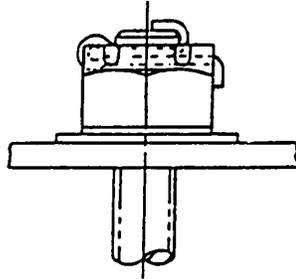

FIGURE 4-4. GENERAL COTTER PIN INSTALLATION
3. Seat the prongs firmly against the bolt and nut. See Figure 4-4, "General Cotter Pin Installation."